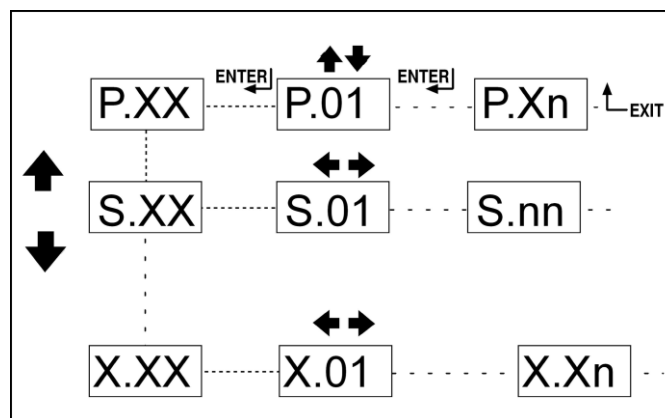

Fig. 2 - Mode navigation
8.4.3 Mode navigation (ref. to fig. 2)